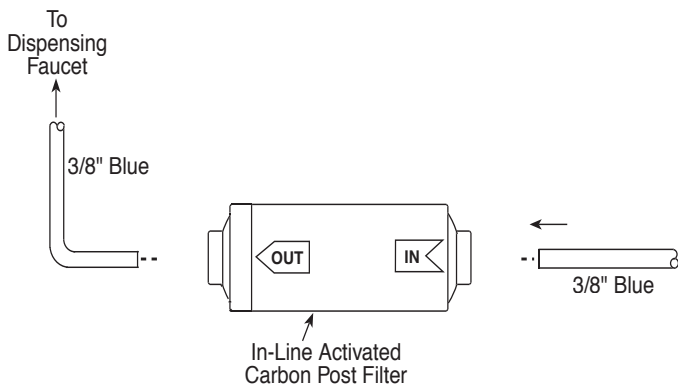

Figure 5
4. Firmly reconnect the polytubes to the new Post Filter. (Refer to Fig. 5.)